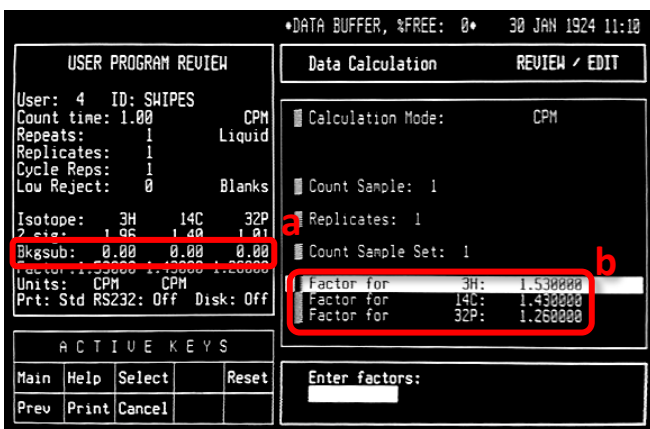

Figure 5. In the “Data Calculation page,” check that “Bkgsb” is set to 0 for each region and set each isotope factor to 1.
- 1.5 On the “REVIEW / EDIT” screen for the user program, highlight “Edit Other Parameters” and press **SELECT** (Fig. 3b). Press **SELECT** again to enter the “Data Calculation” screen (Fig. 5).